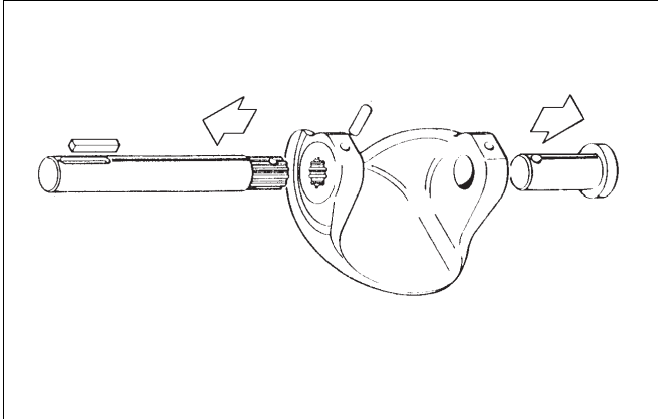

Fig. 24 Removing the shafts
- ❑ Detach the retainer plates (42).
- ❑ Detach the gland packings (20).
- ❑ Remove the shafts (11 and 12), Fig. 24.
- ❑ Adjust the segment open and closed positions (limits to piston movement) by means of the actuator stop screws, see Fig. 24. The correct opening angle is 90°, for the R2\_S valve 70°. The accurate position can be seen in the flow port. Check that the yellow arrow indicates the position of the segment.